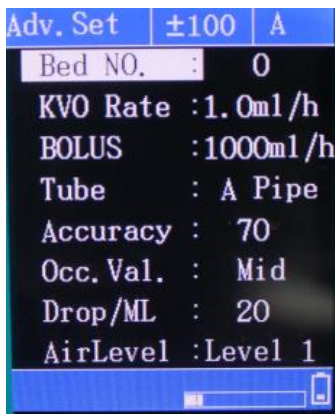

Fig 24
1) In the **STOP** status, press the **SELECT** and the **STOP** at the same time to enter the “Advanced Setting” interface as is shown in Fig 24. Press the  $\uparrow$  key or the  $\downarrow$  key to move the parameters. Press the  $\uparrow$  key or the  $\downarrow$  key or **ENTER** or **SELECT** to adjust the value. (Press the **ENTER** key to select the parameter, when it turns yellow, it becomes adjustable as shown in Fig 25.)